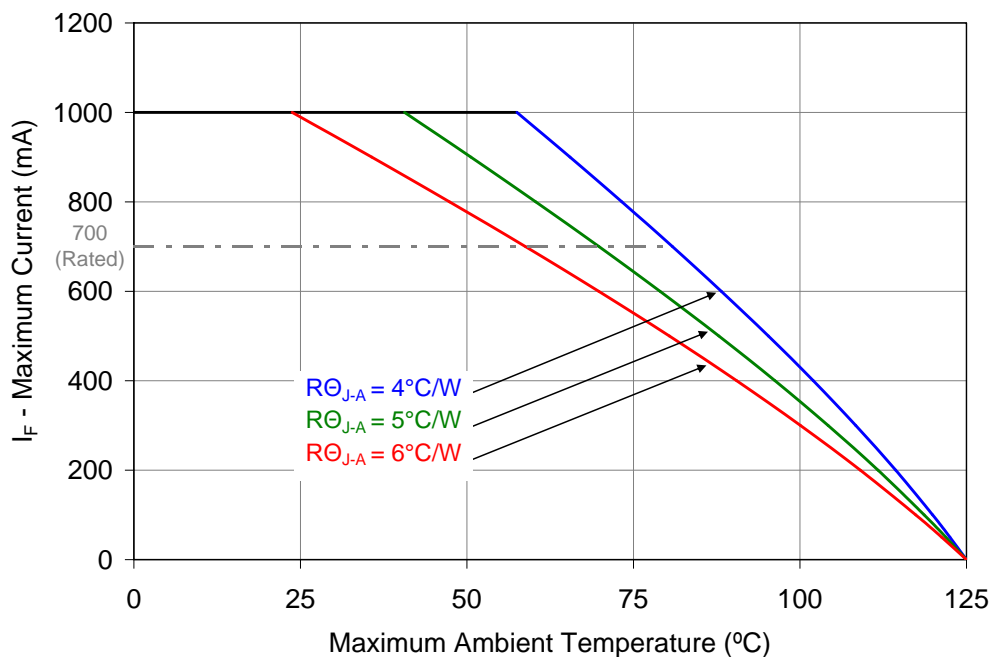

Figure 10: Maximum forward current vs. ambient temperature based on $T_{j(\text{MAX})} = 125^{\circ}\text{C}$.
- Maximum DC forward current is determined by the overall thermal resistance and ambient temperature. Follow the curves in Figure 10 for current derating.
Notes for Figure 10: